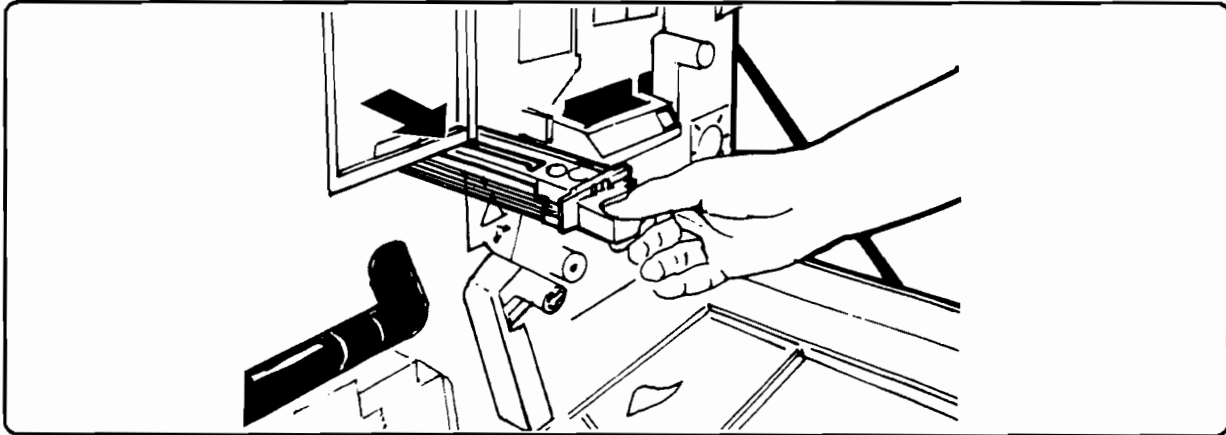

Figure 4. Removing the Primary Corona Assembly
1. Grasp the green handle and gently remove the primary corona assembly by pulling it all the way out along its rails (Figure 4).